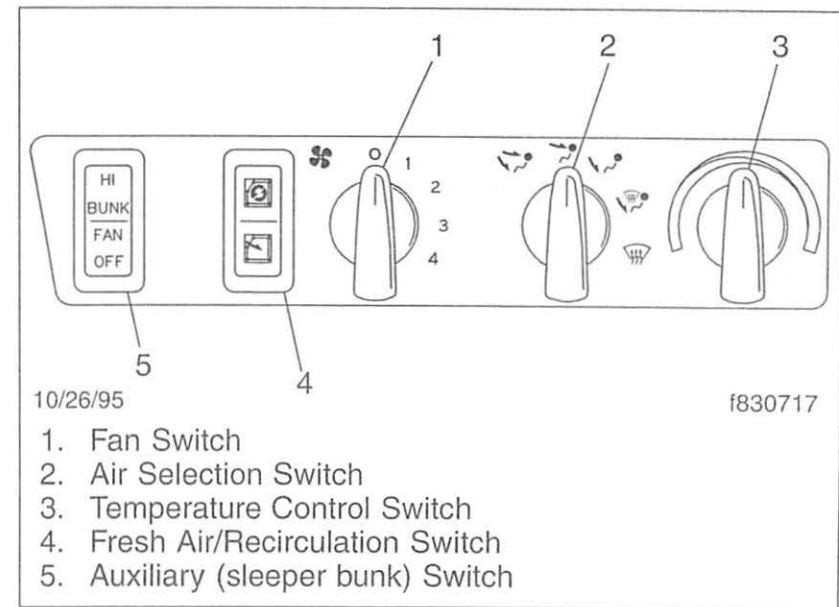

Fig. 4.7, Fresh Air
Fresh Air (Fig. 4.7)
1. With the engine at operating temperature, set the three position switch on the main climate control panel on the dash (Fig. 4.7, Ref. 5) to the middle position.
1. Turn on the cab air conditioner (refer to "Air Conditioning") and set the three position switch on the main climate control panel on the dash (**Fig. 4.7**, Ref. 5) to the middle position.